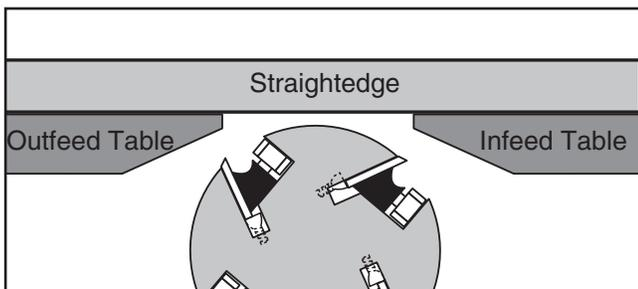

Figure 75. Infeed and outfeed tables set evenly (knife-style cutterhead shown).
- Place straightedge halfway across infeed and outfeed tables, and adjust infeed table even with outfeed table, as shown in **Figure 75**.